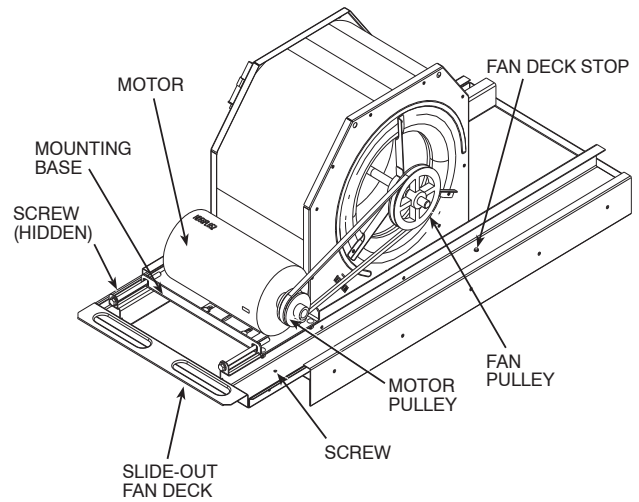

Fig. 29 – Evaporator-Fan Motor Adjustment (Sizes 08-14 Shown)
3. Remove two no. 10 screws at front of slide-out fan deck. Save screws. (See Fig. 29.)
Evaporator Fan Performance Adjustment (See Fig. 29 and 30.)
4. Move motor mounting plate to adjust to proper belt tension. Motor adjuster bolts may be used to tighten belts. (See Fig. 29.) Do not overtighten belt.